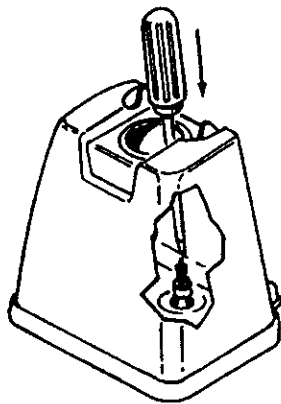

Fig. 3
1. Insert screwdriver through tank opening and push valve until it snaps out of seat. (Fig. 3)